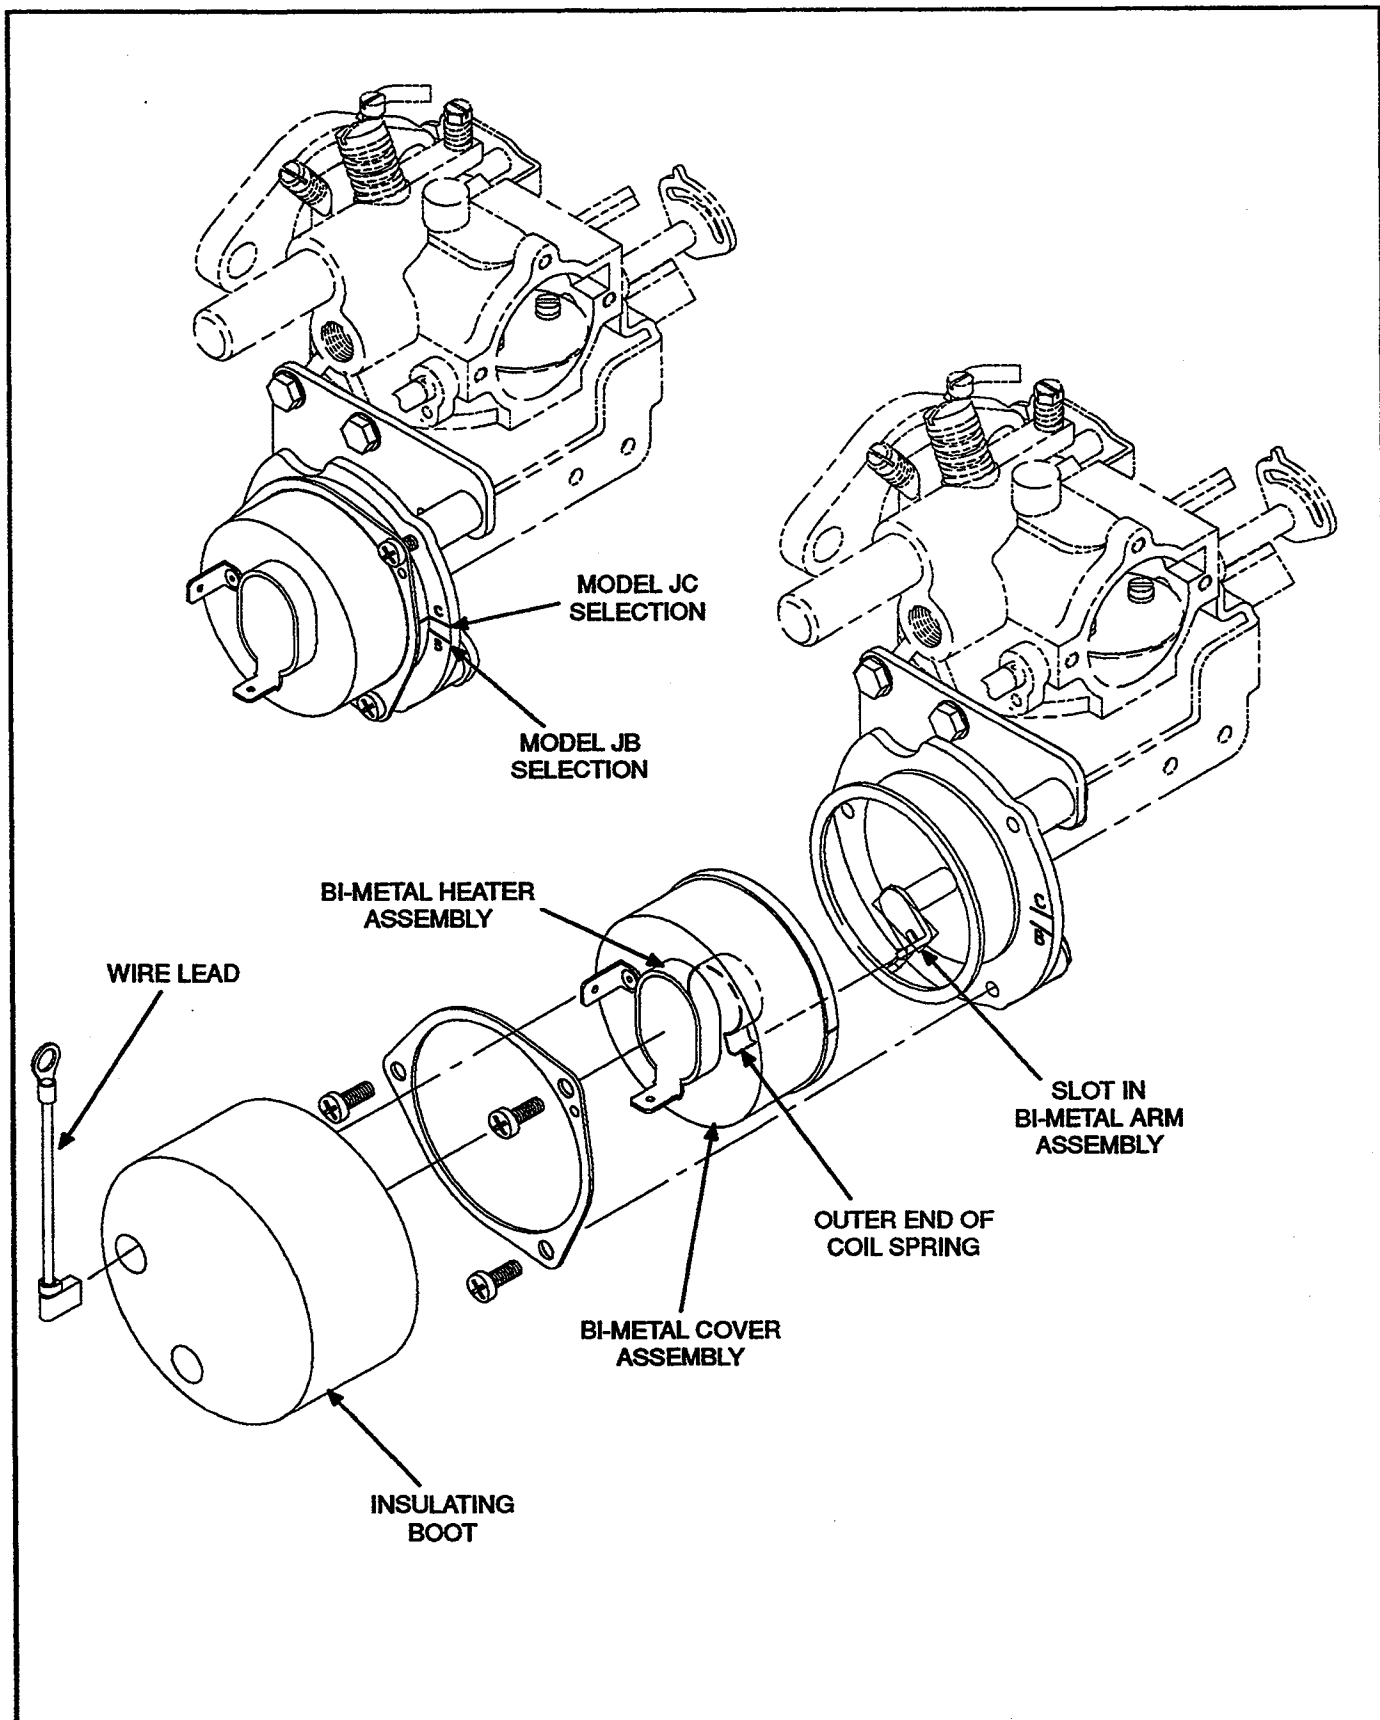
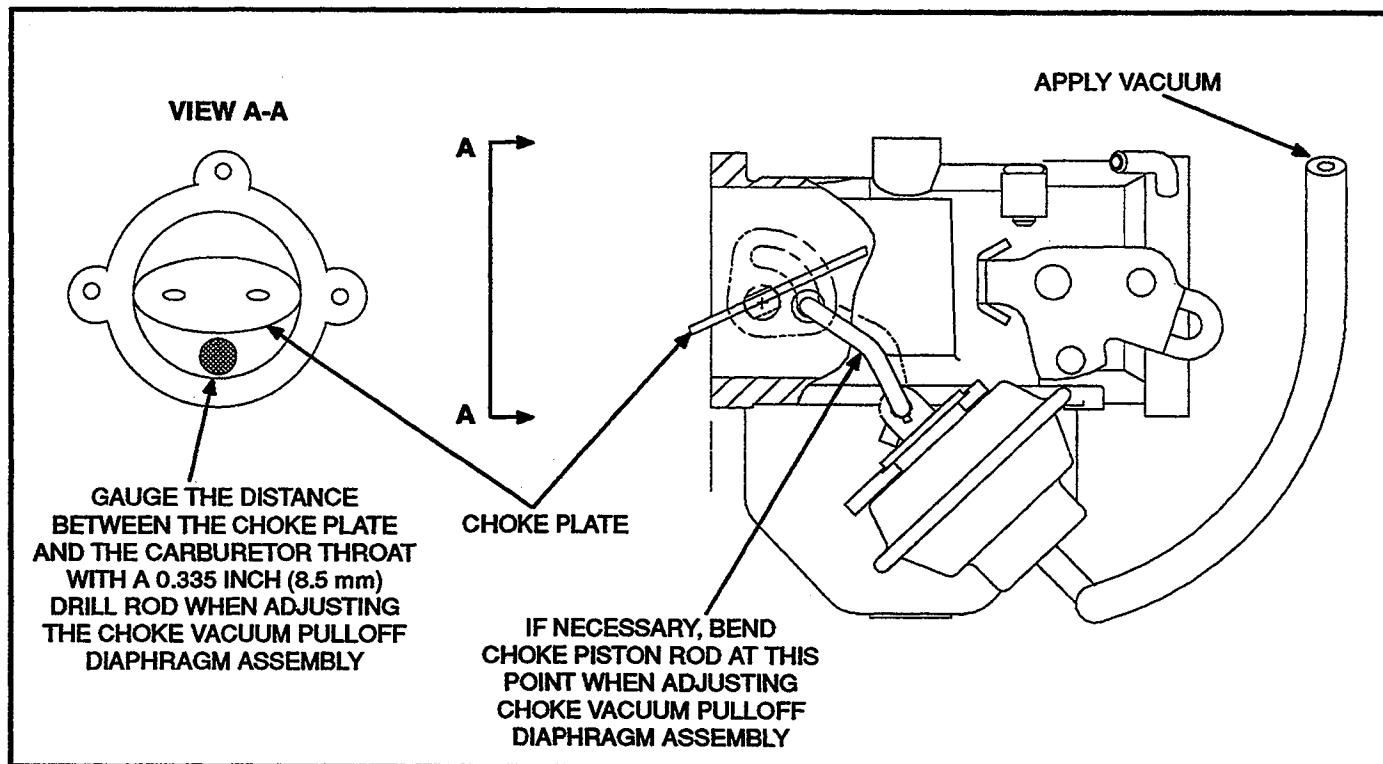

FIGURE 6-3. CHOKE ASSEMBLY
FIGURE 6-4. VACUUM PULLOFF DIAPHRAGM ASSEMBLY ADJUSTMENT
The automatic choke is operated by a bi-metal/heater assembly (Figure 6-3) and a vacuum pulloff diaphragm assembly (Figure 6-4). The pulloff diaphragm assembly is used to partially open the choke when the engine first starts.
If the automatic choke will not heat properly, check for 12 volts DC at the heating element terminals during engine starting. If not present, troubleshoot defective wiring. If present, check the heater resistance with an ohmmeter. With the element at room temperature, resistance should be about 2.5 to 3 ohms. If the heating element is defective, replace the bi-metal cover assembly (Figure 6-3) as follows.
7. Turn the body of the bi-metal cover to select the appropriate model (JB or JC) of the genset (see Figure 6-3) and tighten the three screws to secure the cover assembly to the carburetor.
3. If necessary, bend the choke piston rod at the point shown in Figure 6-4 until the lip of the choke plate just touches the drill rod. Use two pliers to bend the link.